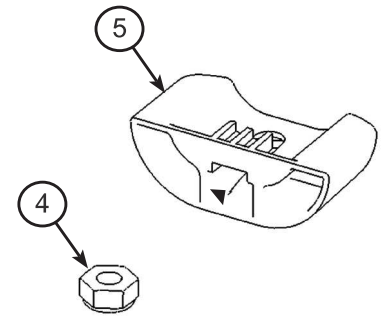

Figure 2
2. Insert nuts into nut retainers (Figure 2) and affix to Assist Device.